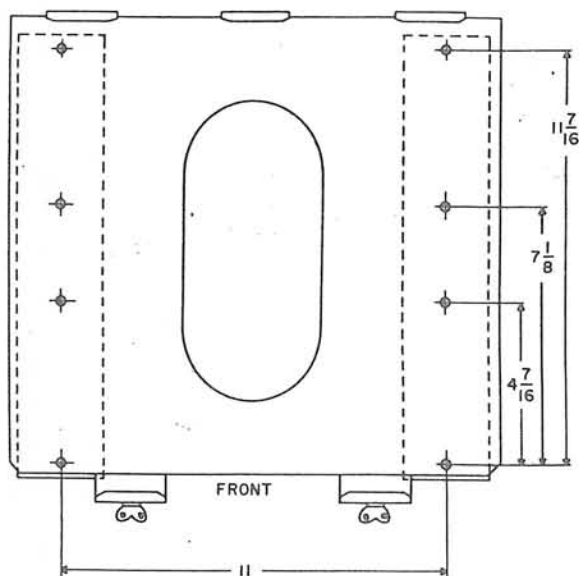

Figure 2-4. Case CY-6063/UG Shock-Mounted Installation Mounting Holes Location
Step 1. Drill eight 5/16-inch holes through mounting surface for the 1/4-28 mounting screws. Space holes as shown in Figure 2-4.